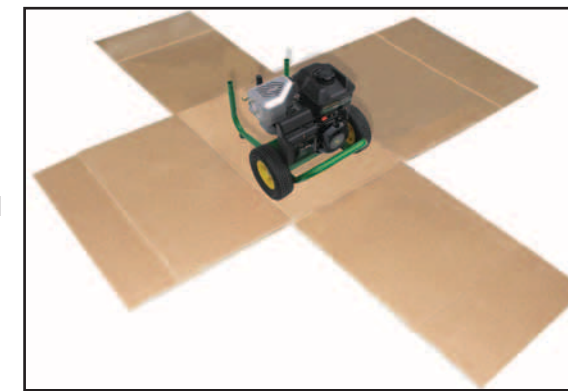

FIGURE 1
2. Open carton completely by cutting each corner from top to bottom. (See Figure 1)